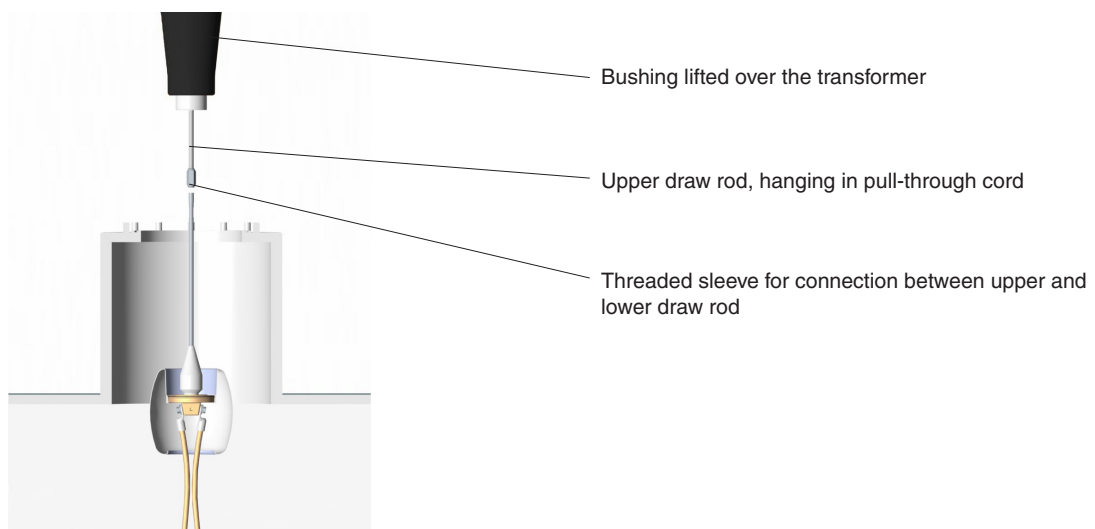
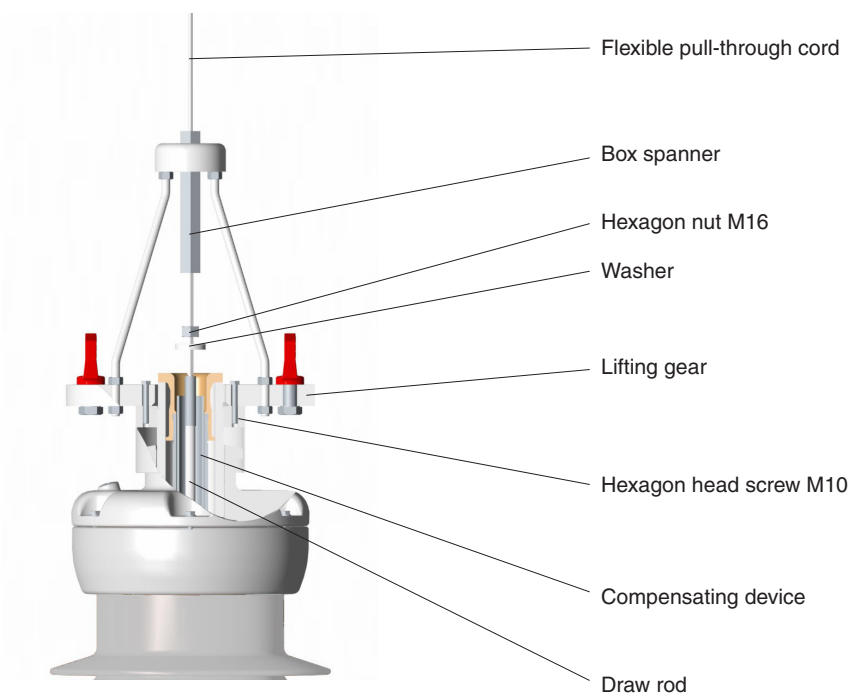
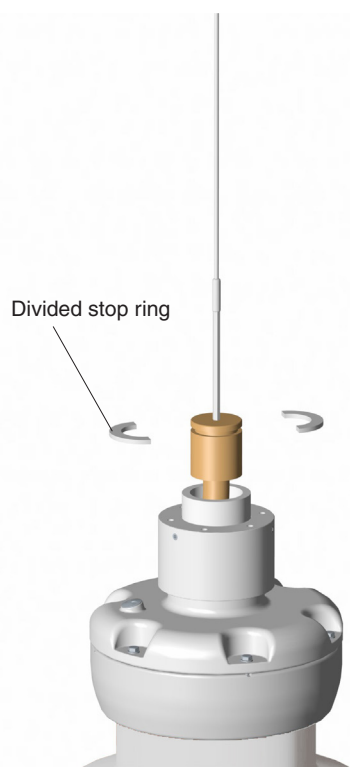

Fig. 9.
Fig. 10.
Fig. 15.
For lifting to a certain angle, the lifting gear shall be arranged according to Fig. 6. Bushings with composite insulator shall not be lifted in the insulator. The centre hole in the bushing conductor and the oil end below the mounting flange shall be carefully cleaned and inspected before mounting on the transformer. A cord or a flexible wire with an M8 swivel is pulled through the centre hole and the top connection details according to Fig. 10 for draw rod system, and Fig. 15 for draw lead. The bushing is now ready to be lifted on to the transformer.
3. The cord, pulled through the bushing with the compensating device, the washer, the nut, and the box spanner in place, as shown in Fig 10, is used for lowering of the upper part of the draw rod to the correct position for jointing with the threaded sleeve of the lower end part, Fig 9.
10. Pull the pull-through cord a little bit above the final position and mount the divided stop ring in the groove. Then lower the complete assembly into place. Be sure the stop ring is in right position. Figs. 15 and 16.